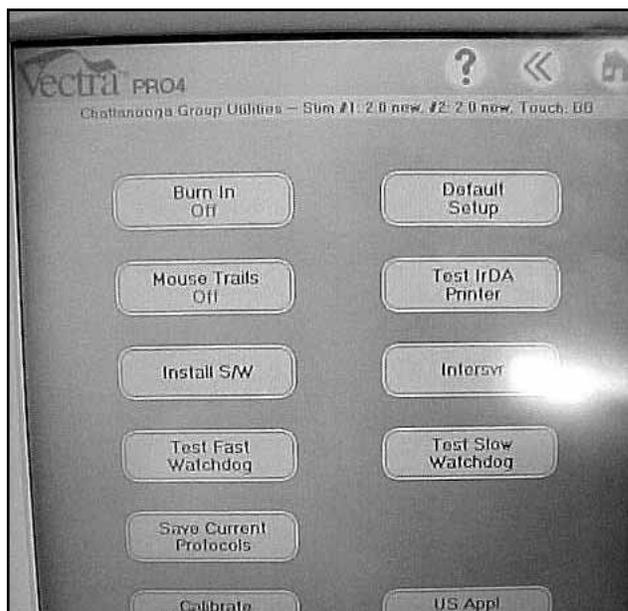

FIGURE 7.3
6. Press "Install S/W" Icon. See Figure 7.3.